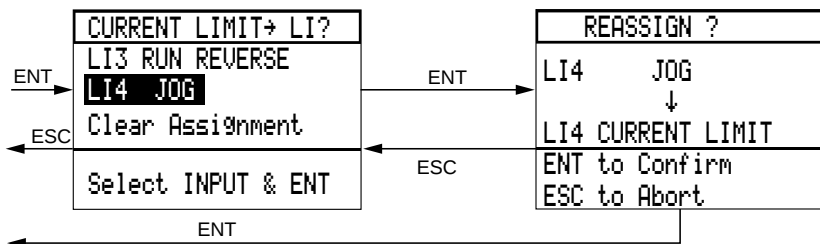

Figure 23: Reassigning Logic Inputs
- Logic Input: assign a logic input to Current Limit (see Figure 23 for procedure). When the assigned logic input is low (state 0), the Current Limit value is the default setting. When it is high (state 1), the Current Limit is the reduced value.